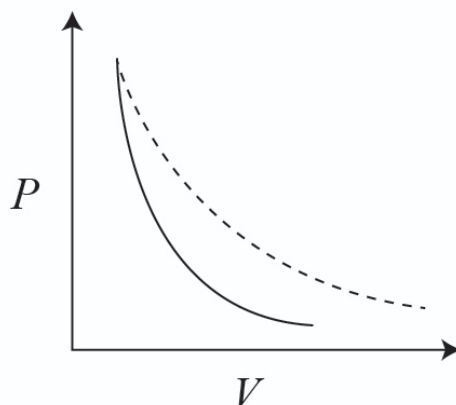

Fig. 12.2.8 *PV diagram for adiabatic process*
The dotted line is the replica of Fig 12.2.8. The continuous line actually represents the adiabatic curve. Work done, in an adiabatic change by an ideal gas from a state (P_1, V_1, T_1) to a state (P_2, V_2, T_2) , is given by
Q.12.2.2 Show that in Fig 12.2.8, the adiabatic curve is steeper than the isothermal curve.